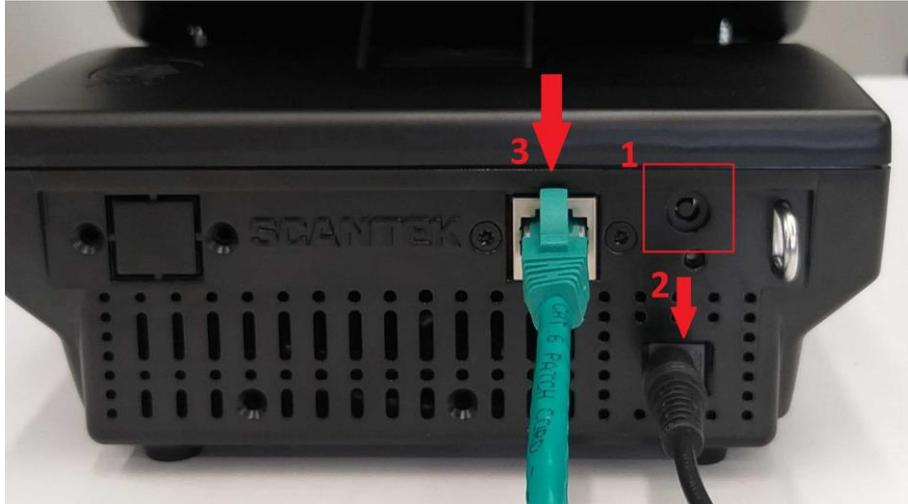

Figure 4
1. Connect an ethernet cable to the ethernet port (3) as shown in *Figure 4*.